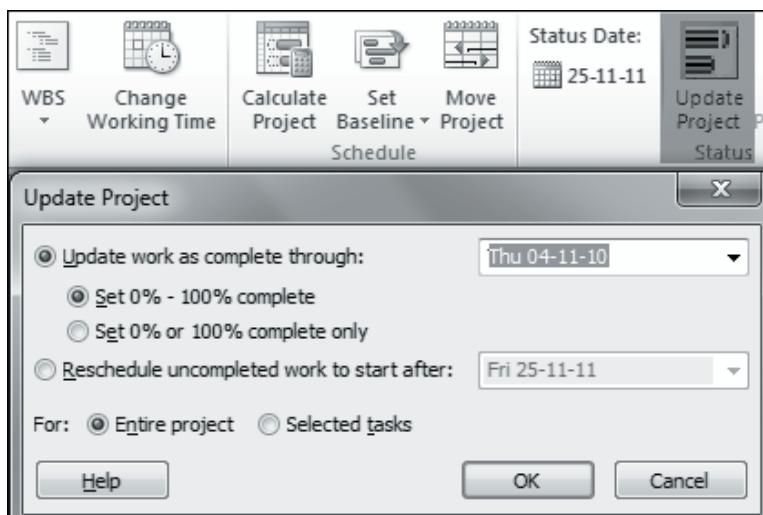

Figure 11.7: Update Project Dialog Box
1. On the **Project** tab, click **Update Project** on the **Ribbon** to display **Update Project** dialog box as shown in figure 11.7.